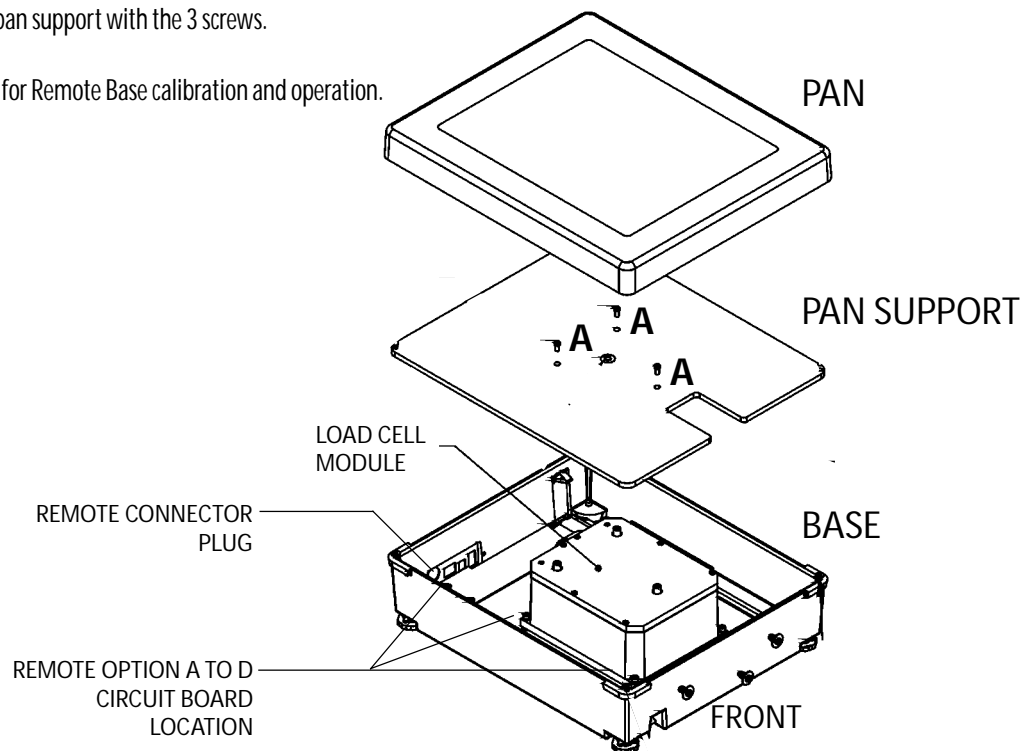

Figure 1. Exploded view of Super II before Remote Scale Option Installation
1. Remove the pan and the pan support by removing the 3 screws marked "A" in Figure 1.